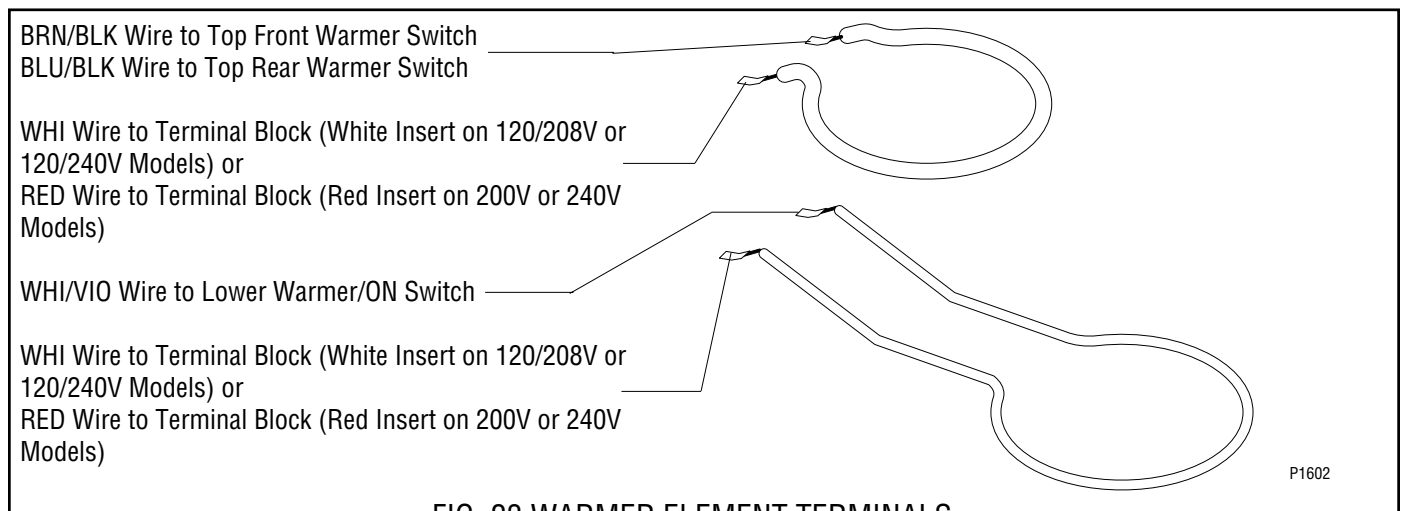

FIG. 23 WARMER ELEMENT TERMINALS
8. Refer to FIG. 23 when reconnecting the wires.